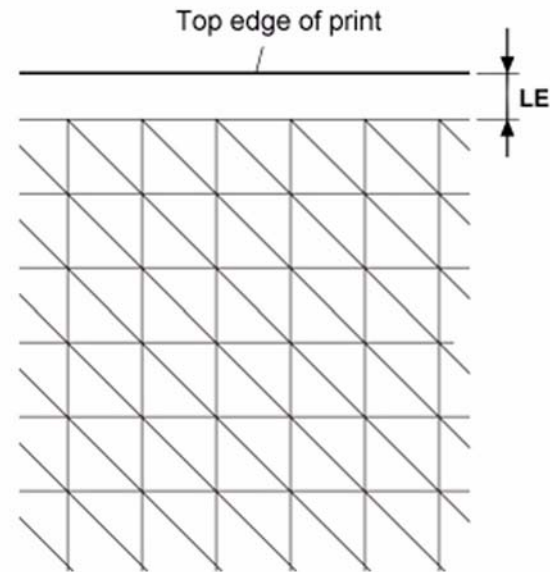

Figure 1 LE measurement
14. (Figure 1) Measure the Lead Edge (LE) in the center area of the 3 copies.